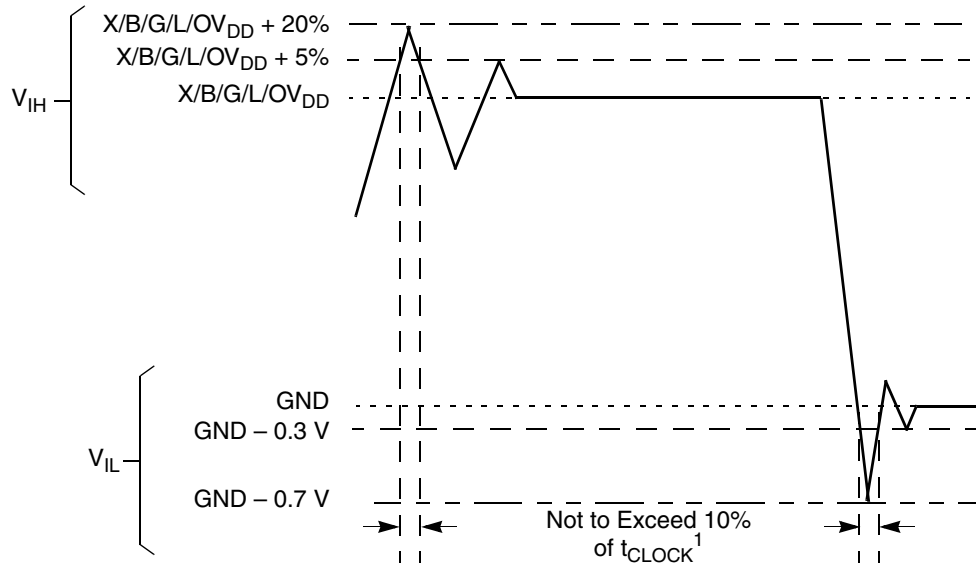

Figure 2. Overshoot/Undershoot voltage for $BV_{IN}/MV_{IN}/LV_{IN}/OV_{IN}/XV_{IN}$
6. (X,B,G,L,O) V_{IN} and MV_{REF} may overshoot/undershoot to a voltage and for a maximum duration as shown in Figure 2.
3. (L,X,B,O,G)V_{IN} may overshoot (for V_{IH}) or undershoot (for V_{IL}) to the voltages and maximum duration shown in Figure 2.